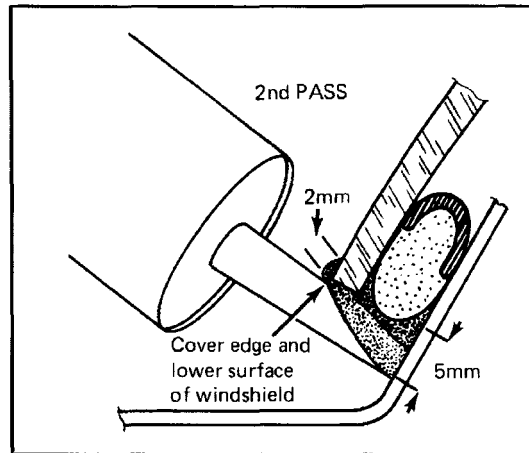

FIGURE 9
12. Make a 2nd pass to widen the base and cover the edge and surface (2mm) of the windshield (Figure 9). Adhesive should extend at least 5mm outside the edge of the windshield.